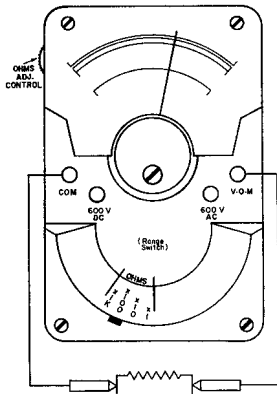

FIGURE 3. Resistance
- e. To make all the above measurements, connect the black test lead to the COM jack and the red test lead to V.O.M. jack. See Figure 3.